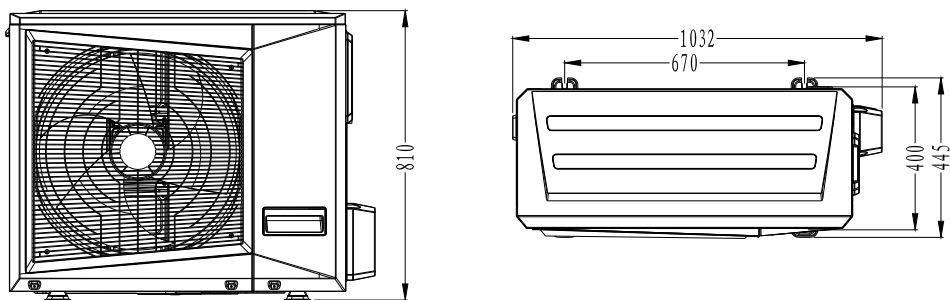

Fig. 3-2 Dimension of Outdoor Unit
2) Fig. 3-2 is applicable for models of 10kW,12.5kW(380V-415V)